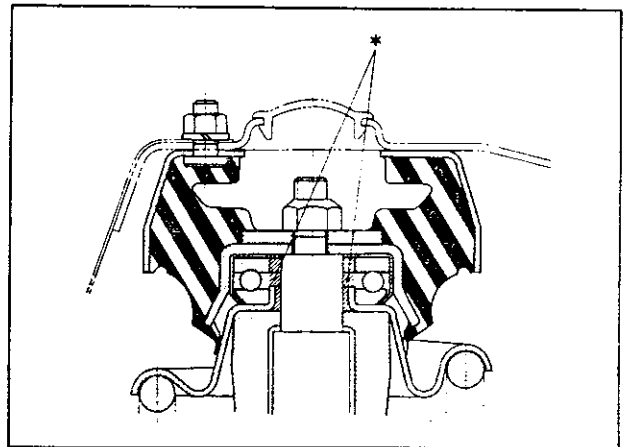

Fig. FA-39 Strut mounting bearing greasing point
b. Install the strut mounting bearing carefully so that it is installed correctly toward the prescribed direction, and be sure to apply multi-purpose grease (MIL G2108 or 10924) to the portion indicated by asterisk (*) in Figure FA-39.